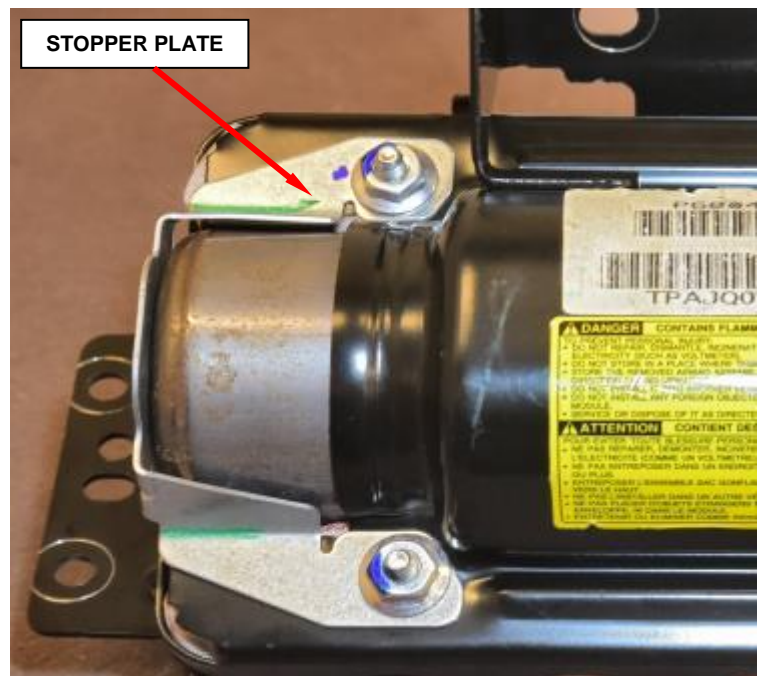

Figure 65 – Stopper Plate
- c. Remove and save stopper plate from housing (Figure 65).
- f. Position the stopper plate to the airbag housing (Figure 65).